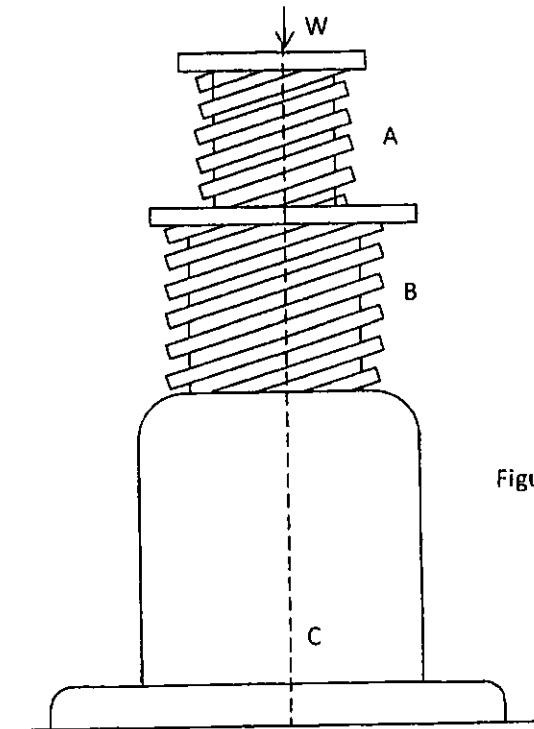

Figure Q4
- (b) A differential screw jack is shown in Figure Q4. The part B, which has a right handed square thread with 9.5 mm pitch on a 57 mm mean diameter, is screwed to the nut fitted in base C. The part A, which is prevented from rotation, carries a right handed square thread with 6 mm pitch on a 30 mm mean diameter. It is screwed into part B. If the coefficient of friction of each thread is 0.15, find the torque necessary to be applied on B to raise a load of 5 kN.